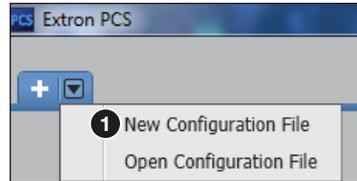

Figure 20. Start-up Drop-down list
To open as an offline device, click on the drop-down arrow and select **New Configuration File** (see figure 20, ❶).